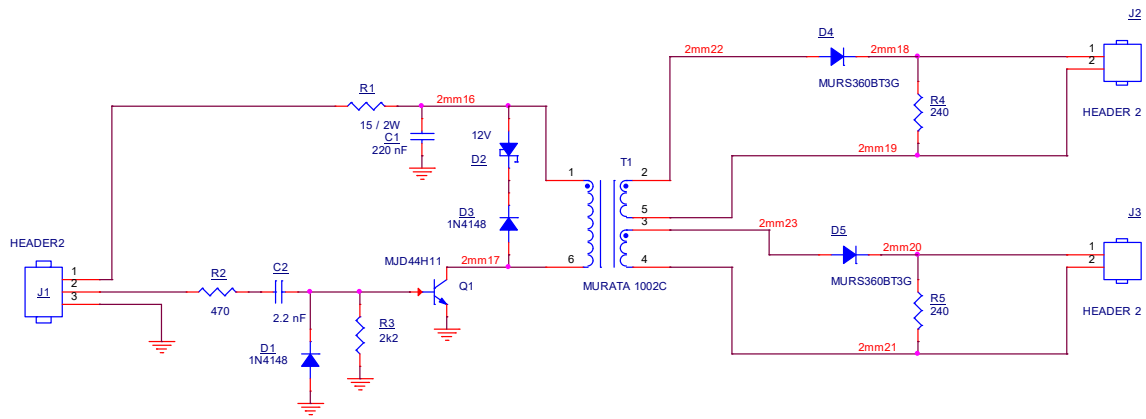

Fig.2. Gate driver integrated in the rectifier board.
2. Have a digital output enabled, to generate the control pulses. Only one output is necessary for the control of the two SCRs. It is recommended to generate bursts of 2 ... 4 kHz, since as we can see in fig.2 the gate driver uses a pulse transformer.